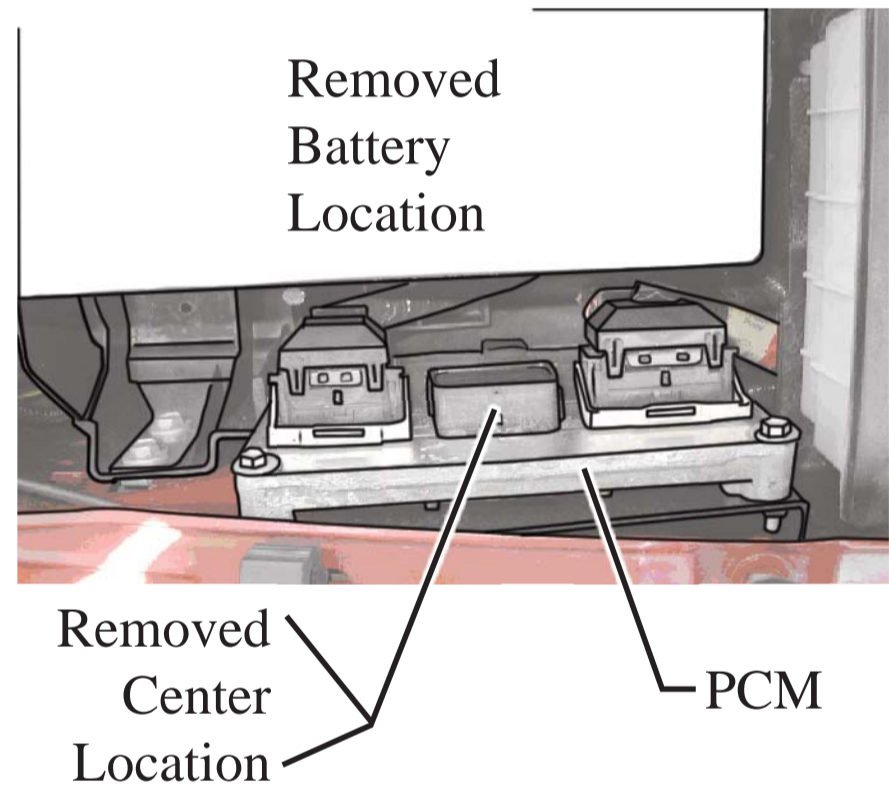

FIGURE 2 - PCM Location
1. Locate the PCM. It is shown below in Figure 2.
3. Disconnect the center harness as shown in Figure 2.